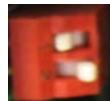

Figure 4-3. Mode Switch
- Mode Switch** Instead of a Run/Remote/Local switch, some versions of the ControlWave Micro include a mode switch (SW1). This is a two-position piano type DIP switch that allows you to configure the mode for firmware upgrades, core updumps, or normal running operations (see *Figure 4-3*).